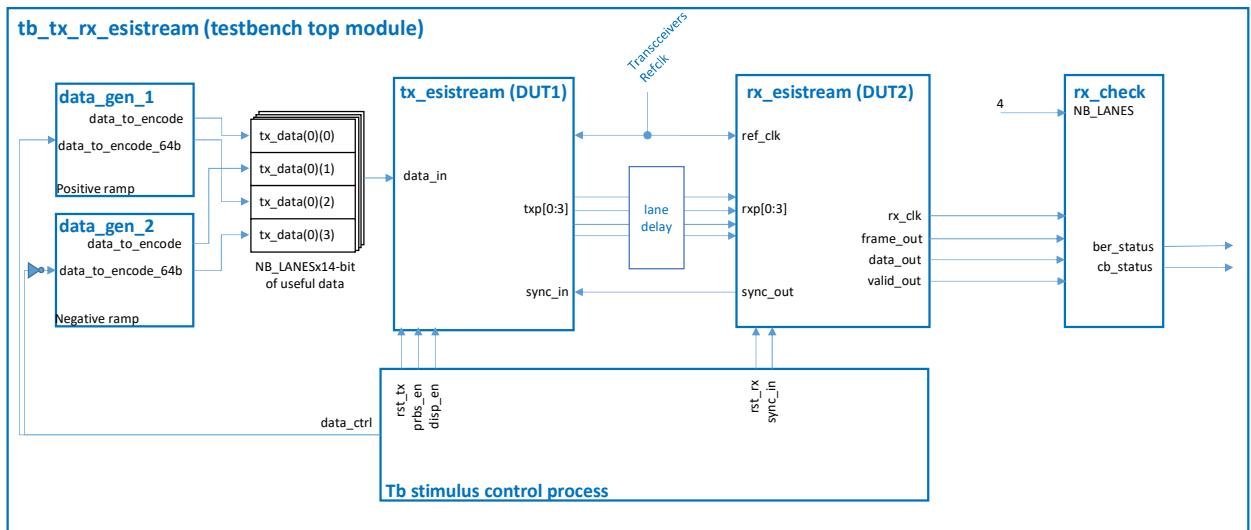

Figure 10: 64-bit SERDES testbench Block diagram
- Program the FPGA: click on Programmer button (see (3) on Figure 10), USB JTAG cable should be connected to the PC and the board should be powered on.